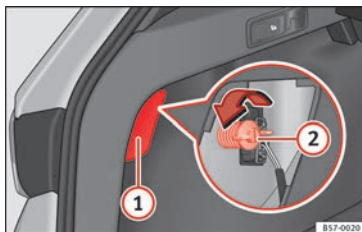

Fig. 110 Luggage compartment: access to the bolt securing the tail light unit.
3. Remove the lid, levering it with the flat side of a screwdriver into the recess » **Fig. 110 ①**.
5. Unscrew the light securing bolt by hand or using a screwdriver » **Fig. 110 ②**.